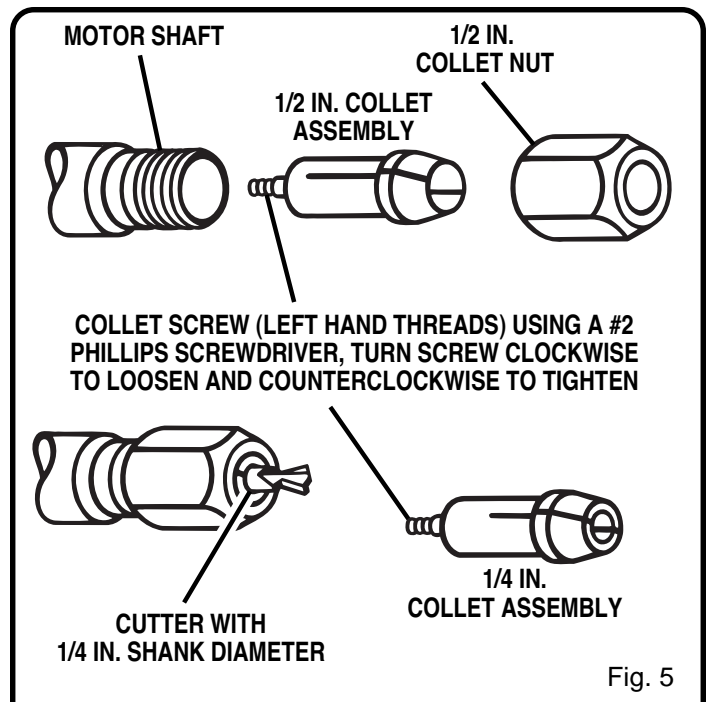

Fig. 5
- The 1/2 in. (13 mm) collet is machined to precision tolerances to fit cutters with 1/2 in. (13 mm) diameter shanks. A 1/4 in. (6.4 mm) collet assembly has also been provided with your router so that cutters with 1/4 in. (6.4 mm) shank bits can be used. See Figure 5.
■ Replace with the 1/4 in. (6.4 mm) collet assembly, securely tightening collet screw in collet to motor shaft, then reassemble the 1/2 in. (13 mm) collet nut. See *Figure 5*. Make sure collet can turn freely inside motor shaft once collet screw is tight.